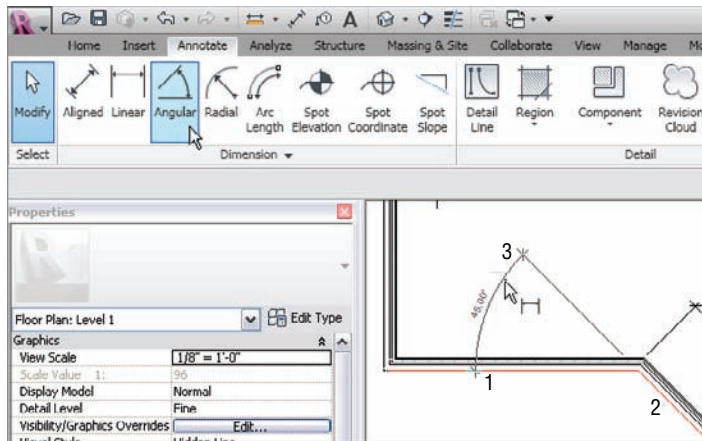

FIGURE 5.19 Placing an Angular dimension means picking two walls and then a point to place the dimension.
2. On the Annotate tab, select the Angular Dimension button, as shown in Figure 5.19.
3. For the first wall, pick the finished, inside face of the upper-left corridor wall, which is marked 1 in Figure 5.19.
4. Pick the finished, inside face of the angled corridor wall, which is marked 2 in Figure 5.19.
5. Move your cursor to the left about 8' (2400mm), and place the dimension that is marked 3 in Figure 5.19.